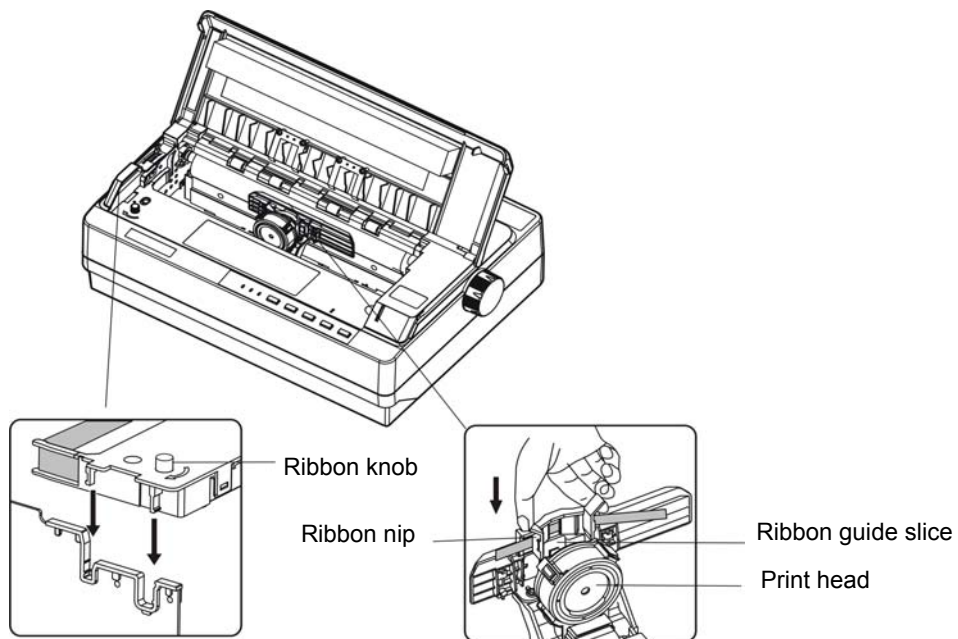

Figure 1-6 Install ribbon cartridge
6. Hold both sides of the ribbon down firmly to fit the plastic hooks into the printer slots. Then put the ribbon nip between print head and ribbon guide slice, press it down until it click into place. (shown as figure 1-6)